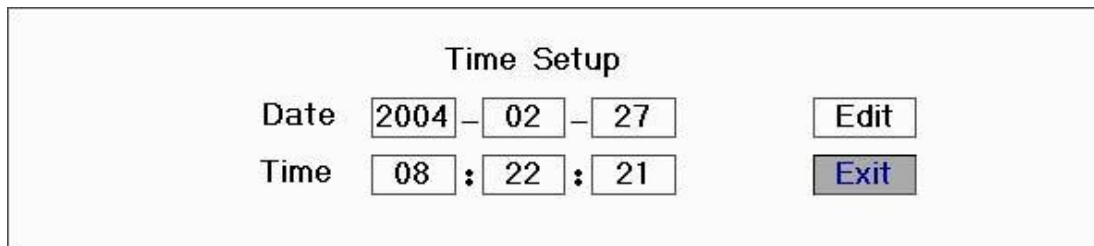

Figure 3.9 Handle Installation
2. Fix the handle subassembly on the rear panel with two screws, see Figure 3.9.